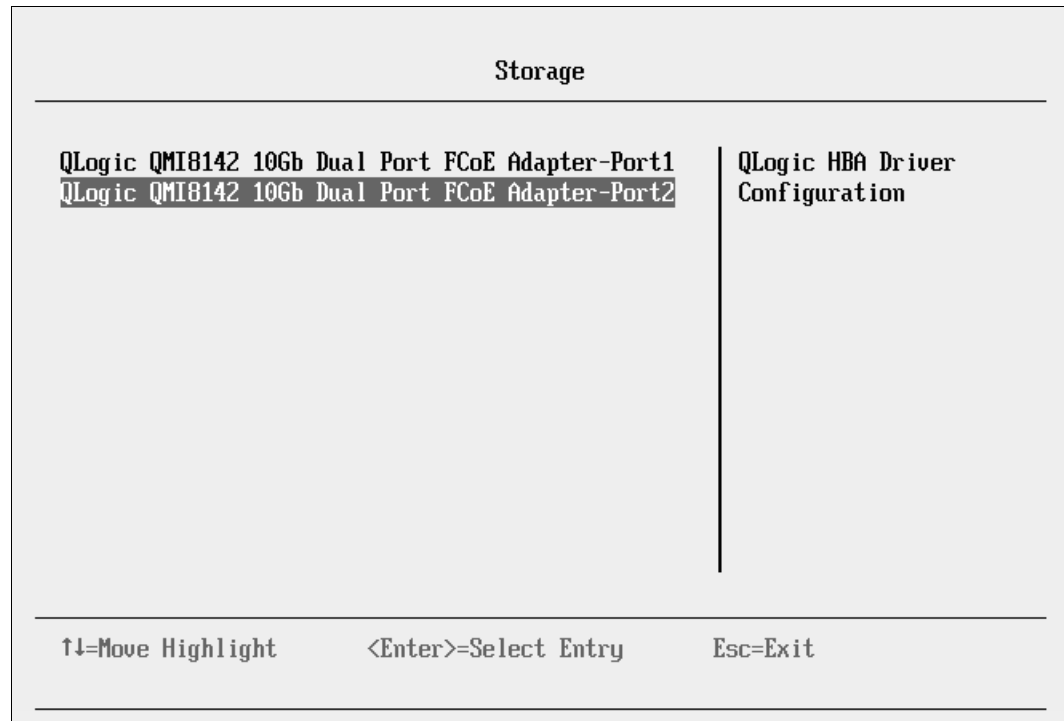

Figure 9-152 Two QLogic CNA ports on the Storage panel
3. When you see the two QLogic fiber ports (Figure 9-152), select the port you want to boot from, and then press Enter.